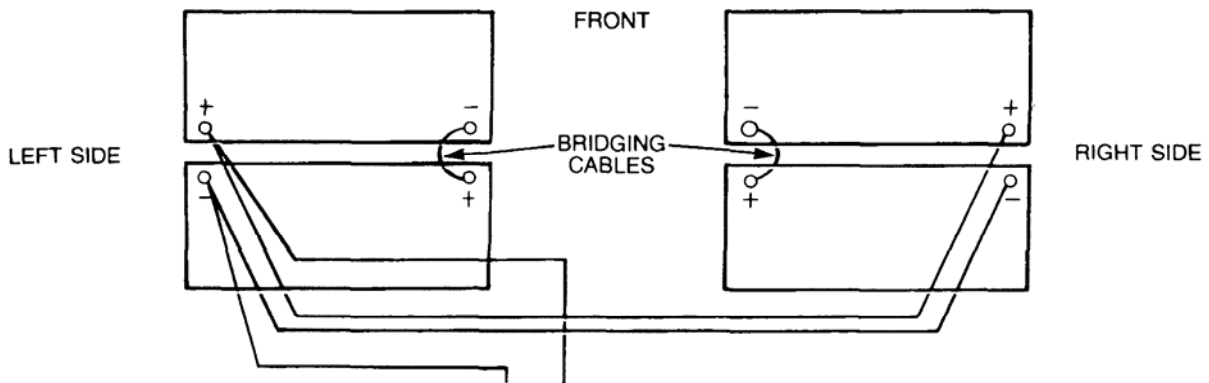

Figure 5 Batteries Installation
- a. Disconnect the batteries, negative terminals first (refer Figure 5).
Ensure that the batteries are installed correctly (refer Figure 5).